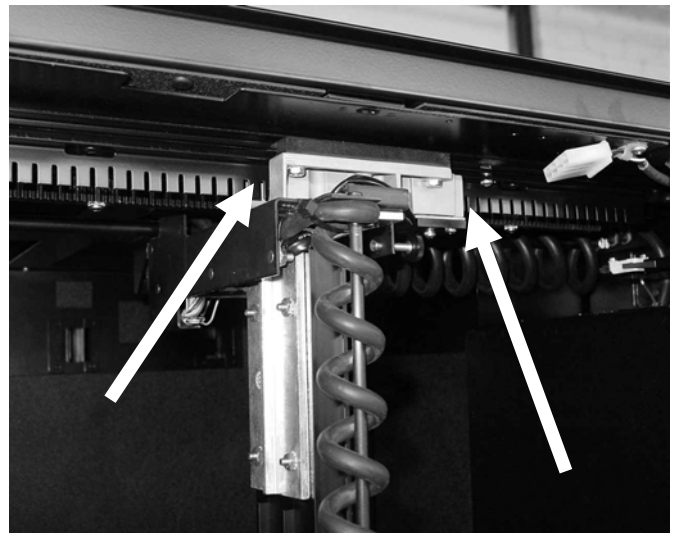

Figure 3
B. Loosen the 3 screws securing the x timing bar to the top of the cabinet interior. (fig. 3) Move the x sensor bar the direction that the shuttle needs to move to be aligned with the left edge of rib 2.
Upper x bar slide assy. (See Fig.3)